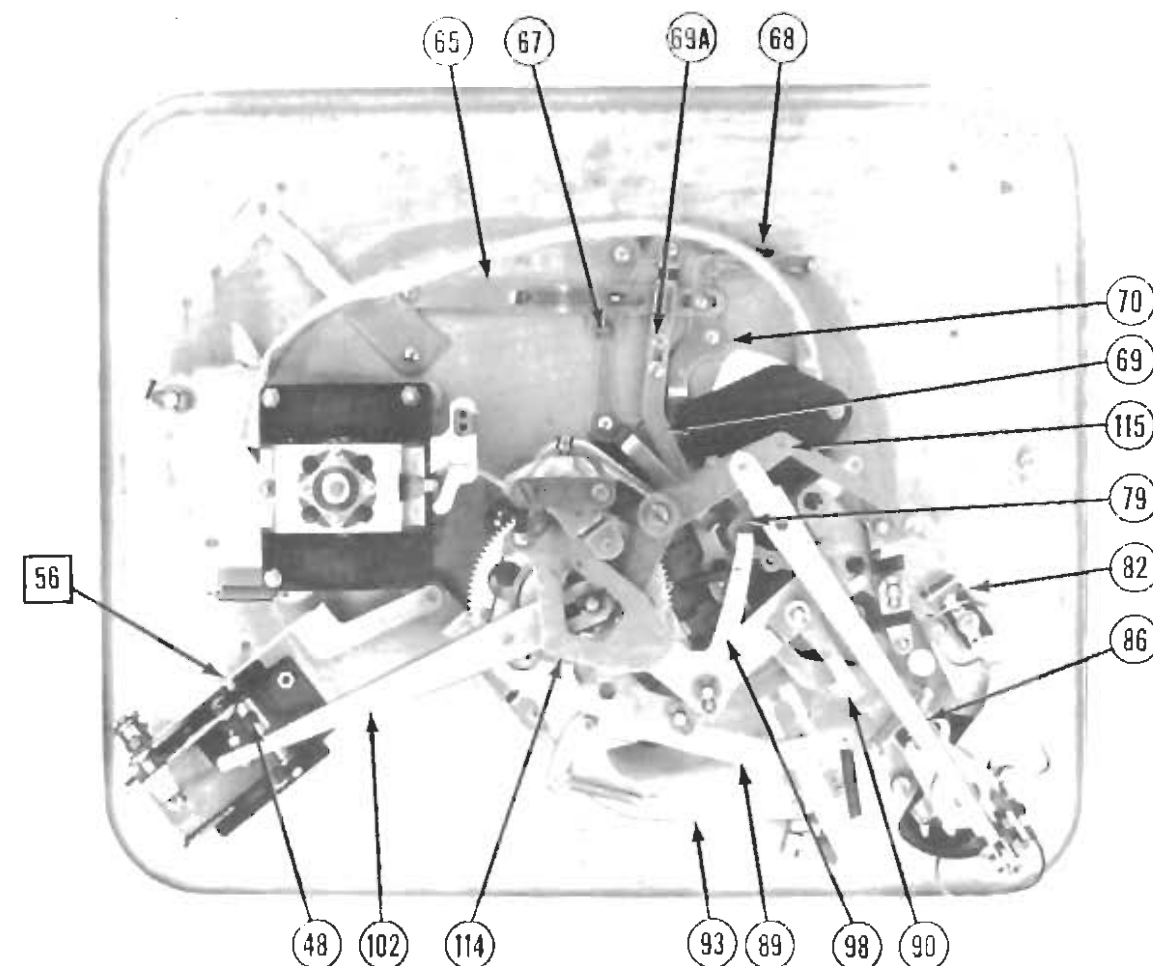

Figure 3
1. After the record platform has been properly mounted, move the change over lever (57) to the 10" position.
2. Loosen the screw (48) in the platform pivot collar.
4. Turn the eccentric pin (56) until the platform is in the required position.
5. Tighten the screw (48), leaving a clearance of about 1/64" between the eccentric shoulder of the pin (56) and platform support (see Figure 3).